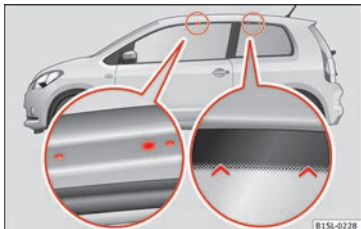

Fig. 141 Attachment points for the basic supports and the roof carrier system in two-door vehicles.
Two-door vehicles: the holes and marks indicating the fitting points for base front supports are in the lower half of the roof struts »» Fig. 141 (enlarged left image). The holes and marks are only seen with the door open. The fitting marks for base rear supports are in the upper half of the windows »» Fig. 141 (enlarged right image).
- The base support should only be fitted to the points indicated in the diagram »» Fig. 141.